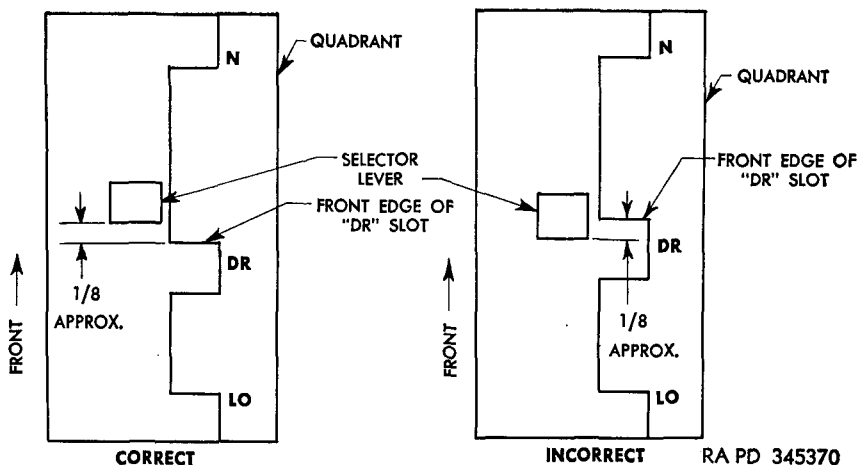

Figure 53. Correct and incorrect adjustment of selector lever.
- (13) *Install radiator air outlet grille.* Attach hoist to handles on radiator air outlet grille and lower into position on rear of vehicle. Install six mounting screws. Center muffler outlet pipes in grille opening.
- (14) *Adjust carburetor.* Refer to paragraph 112.
- (15) *Adjust ignition timing.* Refer to paragraph 104.
- (16) *Check adjustment of both transmissions.* Set brakes. Run both engines at same time with transfer unit in "HIGH" and transmission lever in "NEUTRAL." Set hand throttle to run engines at 1,000 rpm, and move selector lever slowly toward "DRIVE." By watching tachometers, note position of lever when speed of one engine drops. Rear edge of selector lever should be approximately one-eighth of an inch in front of the front edge of slot in quadrant when engine speed drops (fig. 53). Continue moving lever until speed of other engine drops. This should be within $\frac{1}{8}$ -inch additional lever travel. If difference is greater, adjust fulcrum lever of newly installed transmission (par. 149).